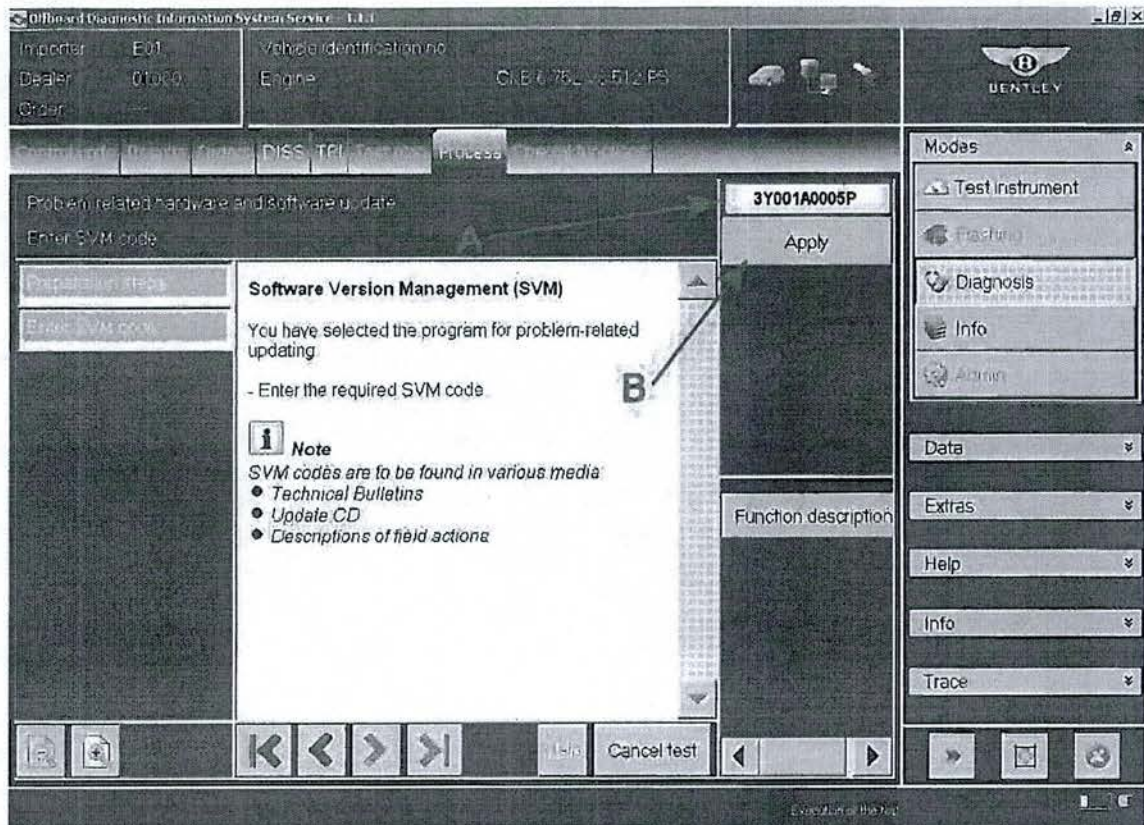

Figure 9
- Once Figure 9 is visible please insert the SVM code 3Y001A0005P (point A) and select Apply (point B) and follow all on screen prompts